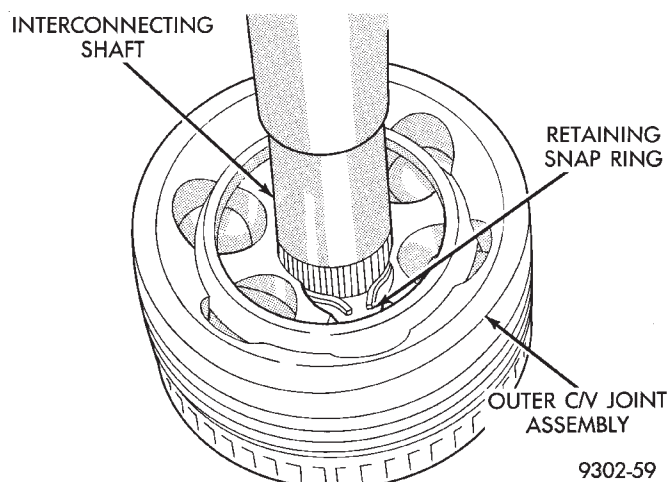

Fig. 35 Outer C/V Joint Installed On Interconnecting Shaft
(1) Slide a new seal boot to interconnecting shaft retaining clamp, onto the interconnecting shaft. Then slide the replacement outer C/V joint assembly sealing boot onto the interconnecting shaft.
(2) Install outer C/V joint assembly onto interconnecting shaft. Joint is installed on interconnecting shaft, by pushing interconnecting shaft into outer C/V joint, until retaining snap ring is seated in groove on interconnecting shaft (Fig. 35). Verify the snap ring is fully seated into groove on interconnecting shaft.
(3) Distribute 1/2 the amount of grease provided in seal boot service package (DO NOT USE ANY OTHER TYPE OF GREASE) into outer C/V joint assembly housing. Put the remaining amount into the sealing boot.